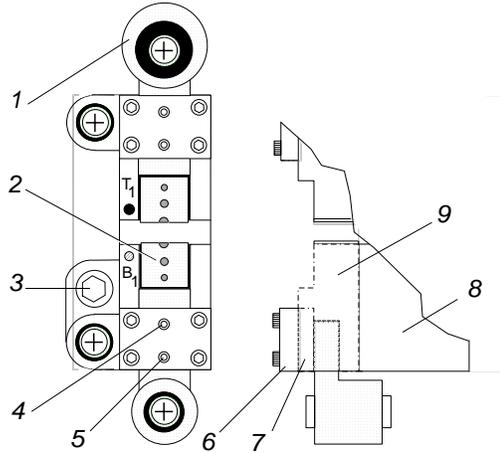

Figure 20 Die Block Assembly Slide Clearance
1. Remove die block assembly. Station 1 die block assembly is illustrated in Figure 20.
- b. Raise die block approximately 1" (25.40 mm) from machine upright plate using machine's die block adjusting bolt (Figure 20, Item 3).
- a. Remove and discard set screws in cover plate (Figure 20, Item 6).
- a. Loosen cover plate's inner set screw (Figure 20, Item 4) approximately a quarter turn.